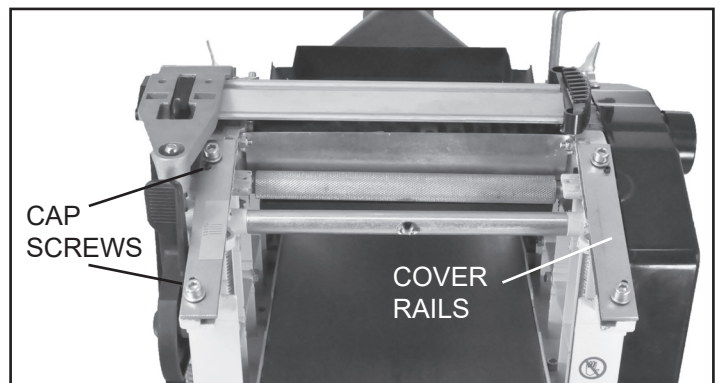

FIG. 5
1. Remove the four socket head cap screws (#123) from the infeed table's Cover Rails (#125) that have been pre-installed on the sides of the machine's frame. FIG. 5.